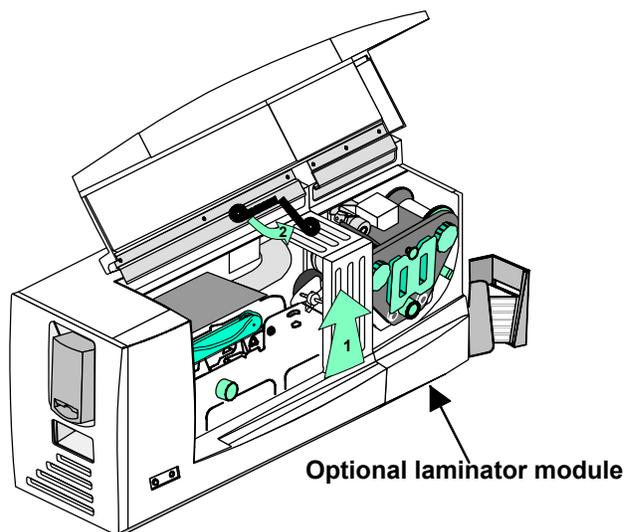

Figure 2-5: Open the cover
- 1 Lift the top cover, and then move the support down so it rests on the internal frame, as shown in Figure 2-5.